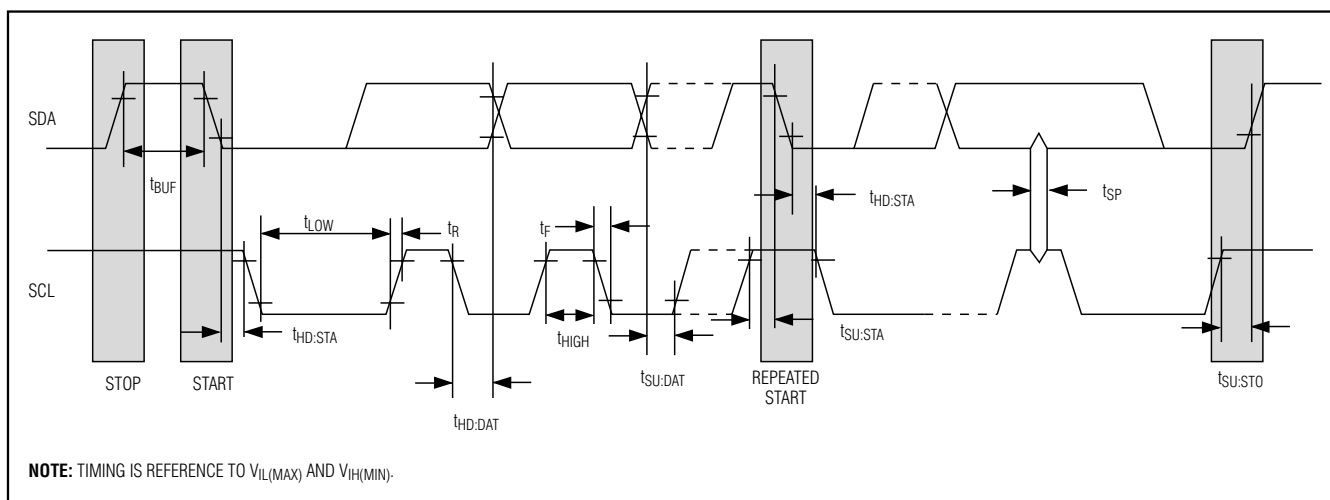

Figure 3. I2C Timing Diagram
## I2C AC ELECTRICAL CHARACTERISTICS (See Figure 3)
The following terminology is commonly used to describe I2C data transfers. See the timing diagram (Figure 3) and the I2C AC Electrical Characteristics table for additional information.
**Acknowledgement (ACK and NACK):** An Acknowledgement (ACK) or Not Acknowledge (NACK) is always the 9th bit transmitted during a byte transfer. The device receiving data (the master during a read or the slave during a write operation) performs an ACK by transmitting a zero during the 9th bit. A device performs a NACK by transmitting a one (done by releasing SDA) during the 9th bit. Timing (Figure 3) for the ACK and NACK is identical to all other bit writes. An ACK is the acknowledgment that the device is properly receiving data. A NACK is used to terminate a read sequence or as an indication that the device is not receiving data.